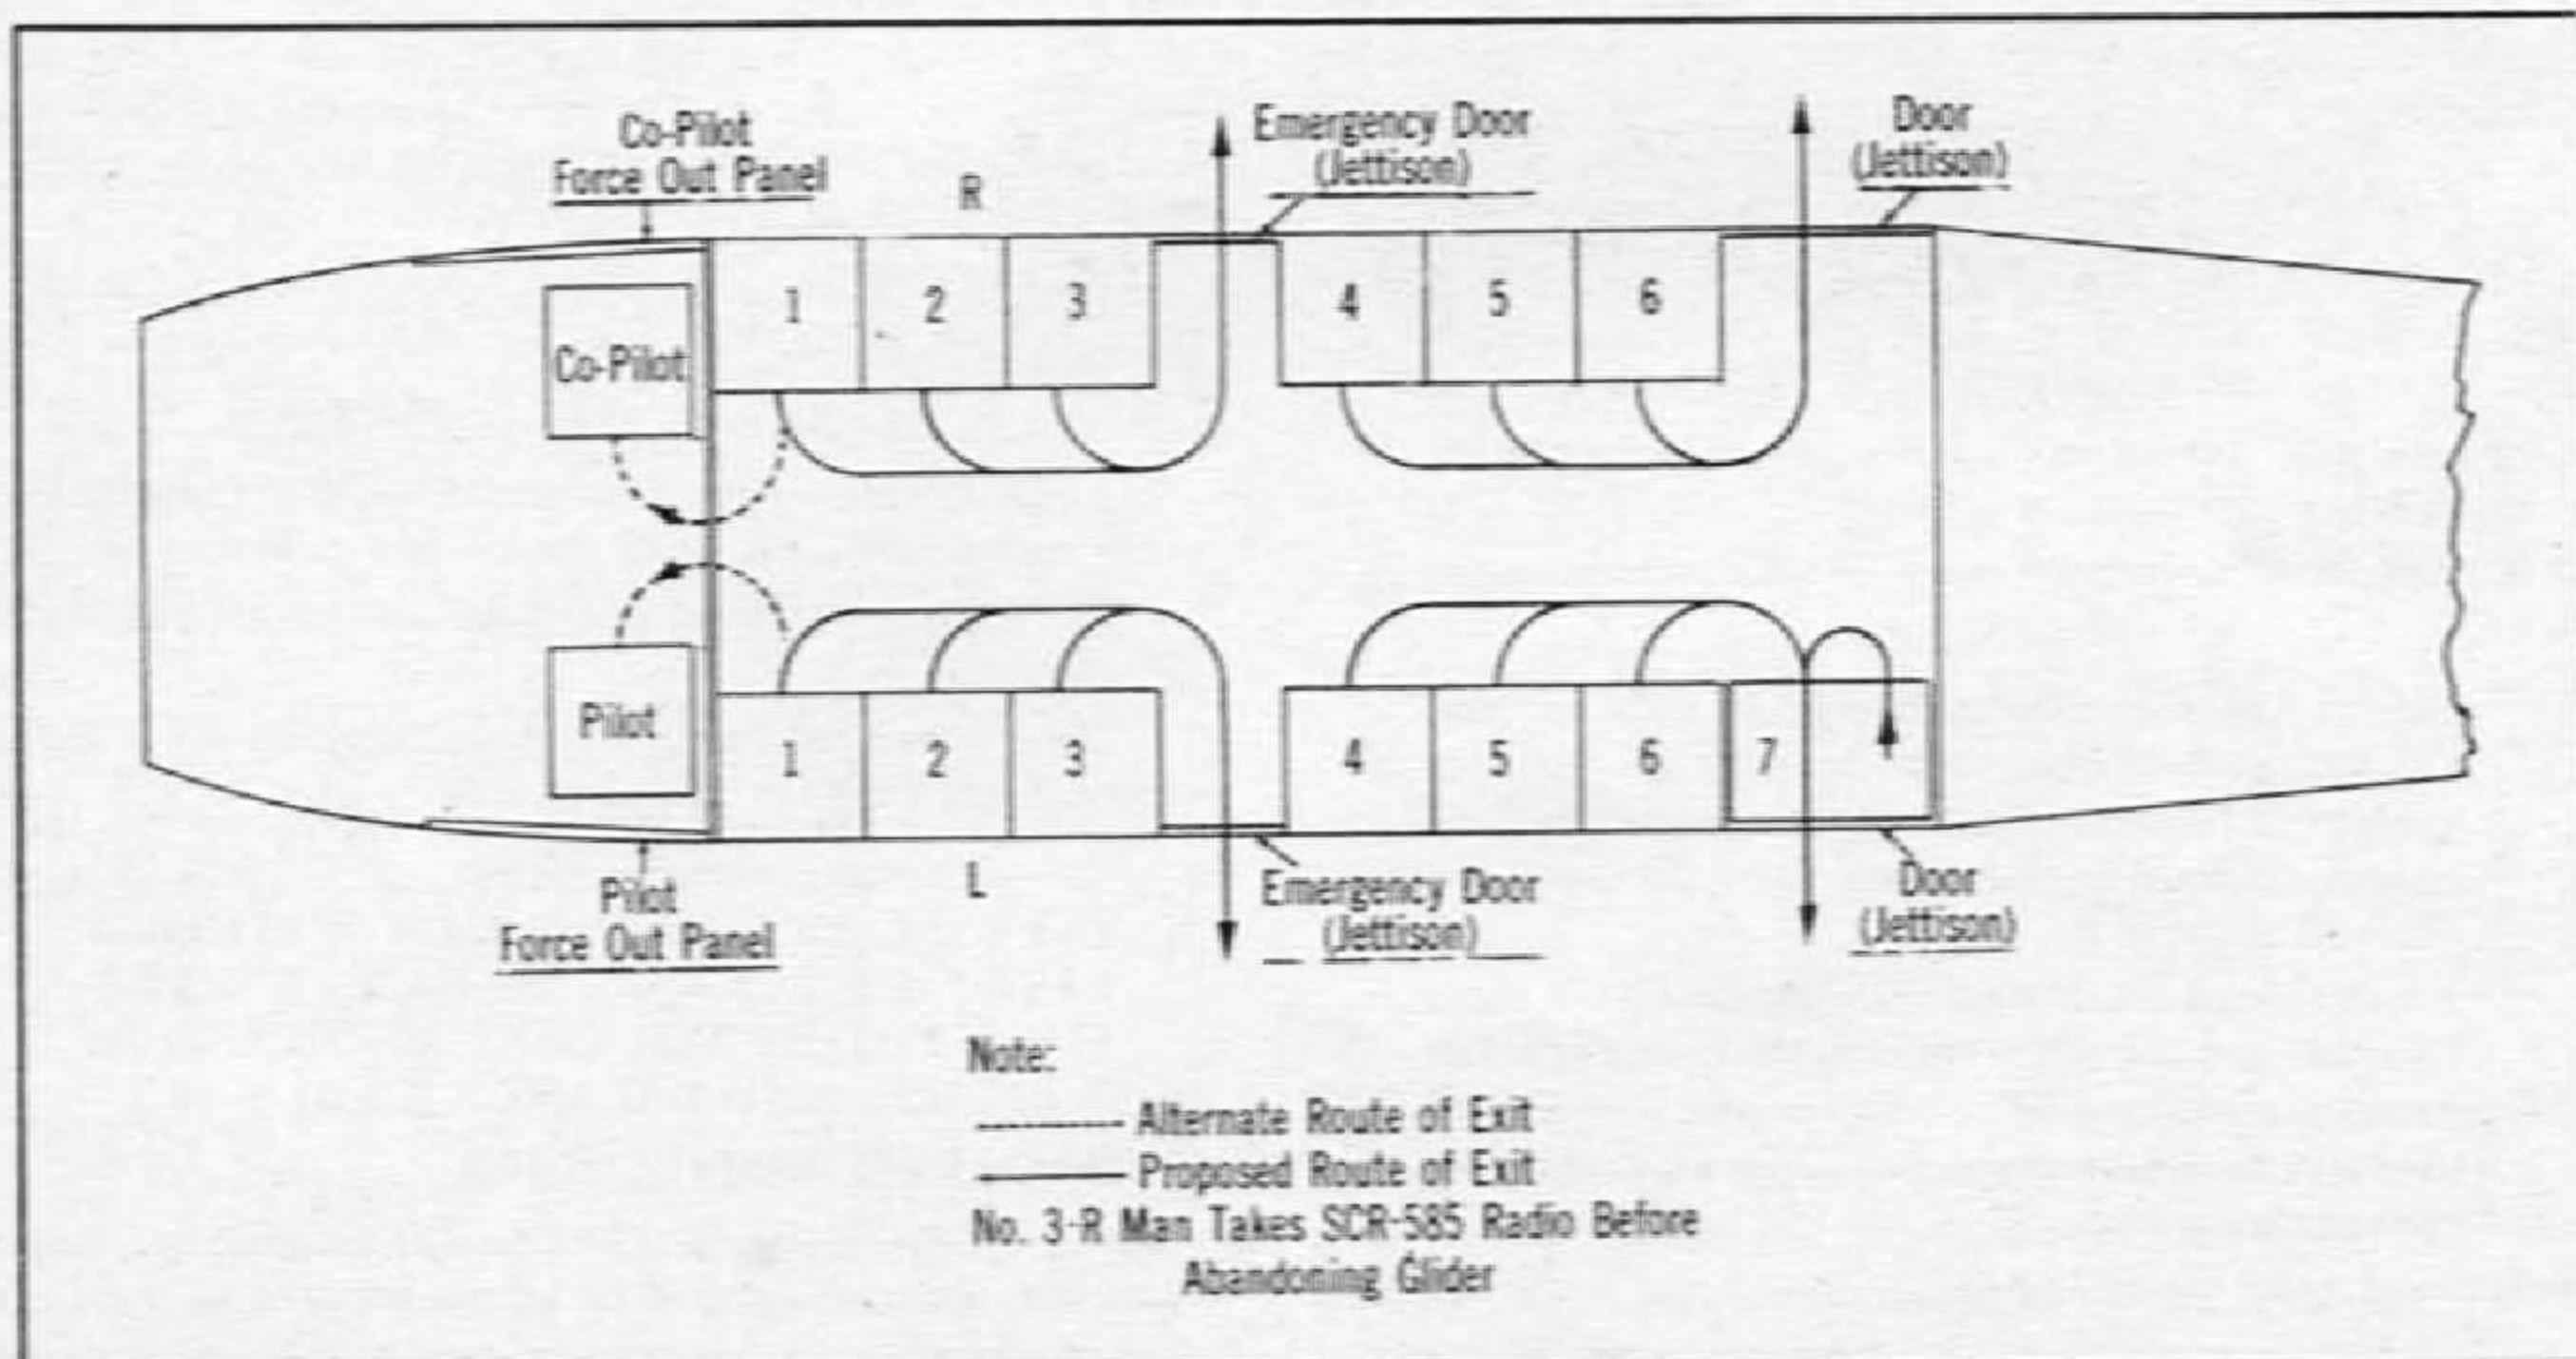

Figure 7—Method of Abandoning CG-4A Glider
(1) The glider should be abandoned as shown in figure 7.
(2) All personnel should climb onto the wings of the glider as these sections will remain afloat for several hours. Precautions should be taken to prevent puncturing holes in the skin of the wing surfaces, as this will decrease the length of time the wing panels will remain afloat.